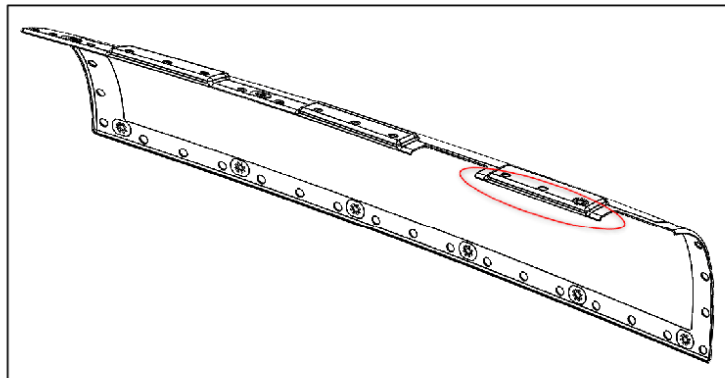

Figure 5: Cutout Location (LH shown, RH opposite)
1. On the cover, identify the location where the cutout needs to be added (Figure 5).